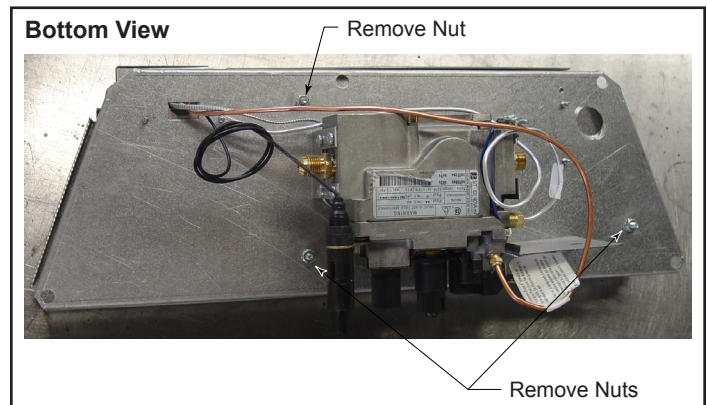

Figure 7.10 - Remove three (3) nuts securing ember bed in place.
- Remove three (3) 3/8" nuts on bottom side of burner pan. (Figure 7.10)